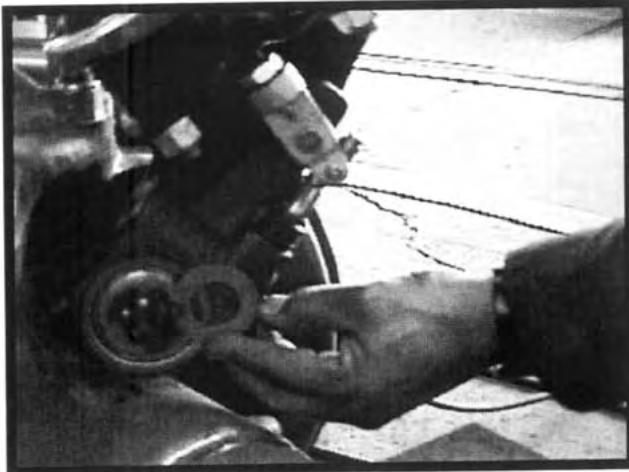

Figure 21
5. Tap on the cam end of the shaft with a soft mallet to move the shaft inboard. Attempt to insert a .030" spacer between the existing spacers and the snap ring. See Figure 21. If the spacer slides easily between the two, remove the snap ring and install the spacer. Reinstall the snap ring and repeat this step until a .030" spacer can no longer be inserted.